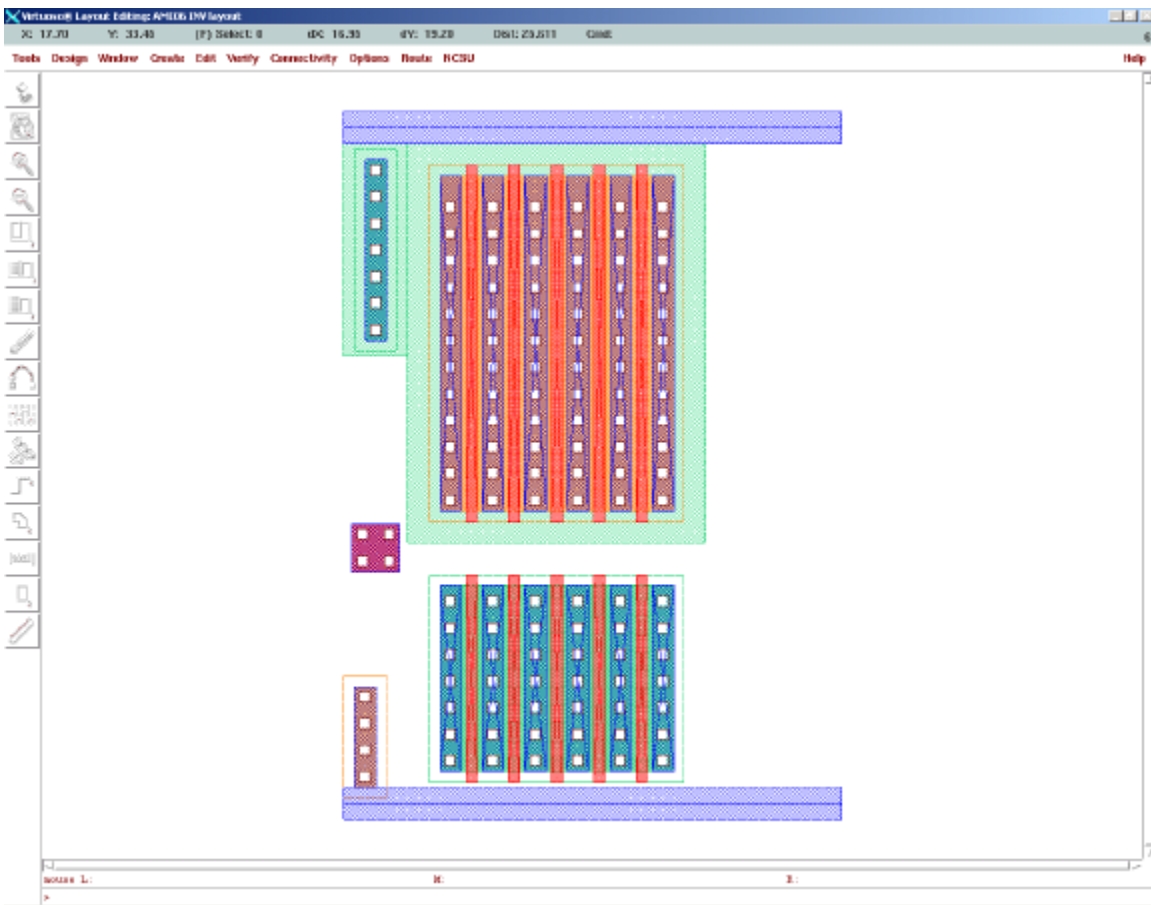

Figure 78: Placement of the Metal1 Poly Contact.
2. Stamp it down like in Figure 78. The top left coordinate is: $x=.45, y=16.65$.